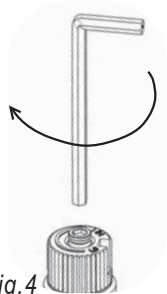

Fig. 4
- 14) Using the Allen wrench as shown in Fig. 4, rotate the screw clockwise until snug, do not overtighten.